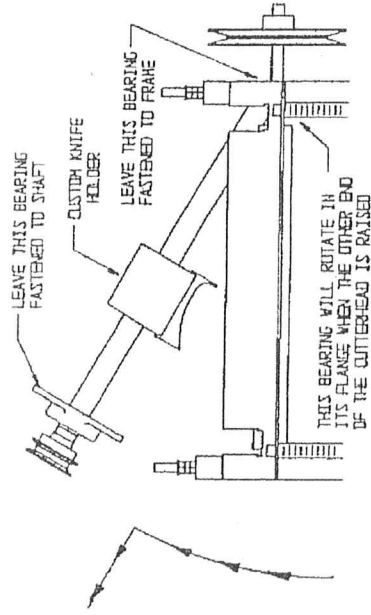

Fig. B-1
4. Install the Custom Knife Holder on the Quick Change Molding Head assembly (see fig. B-1).